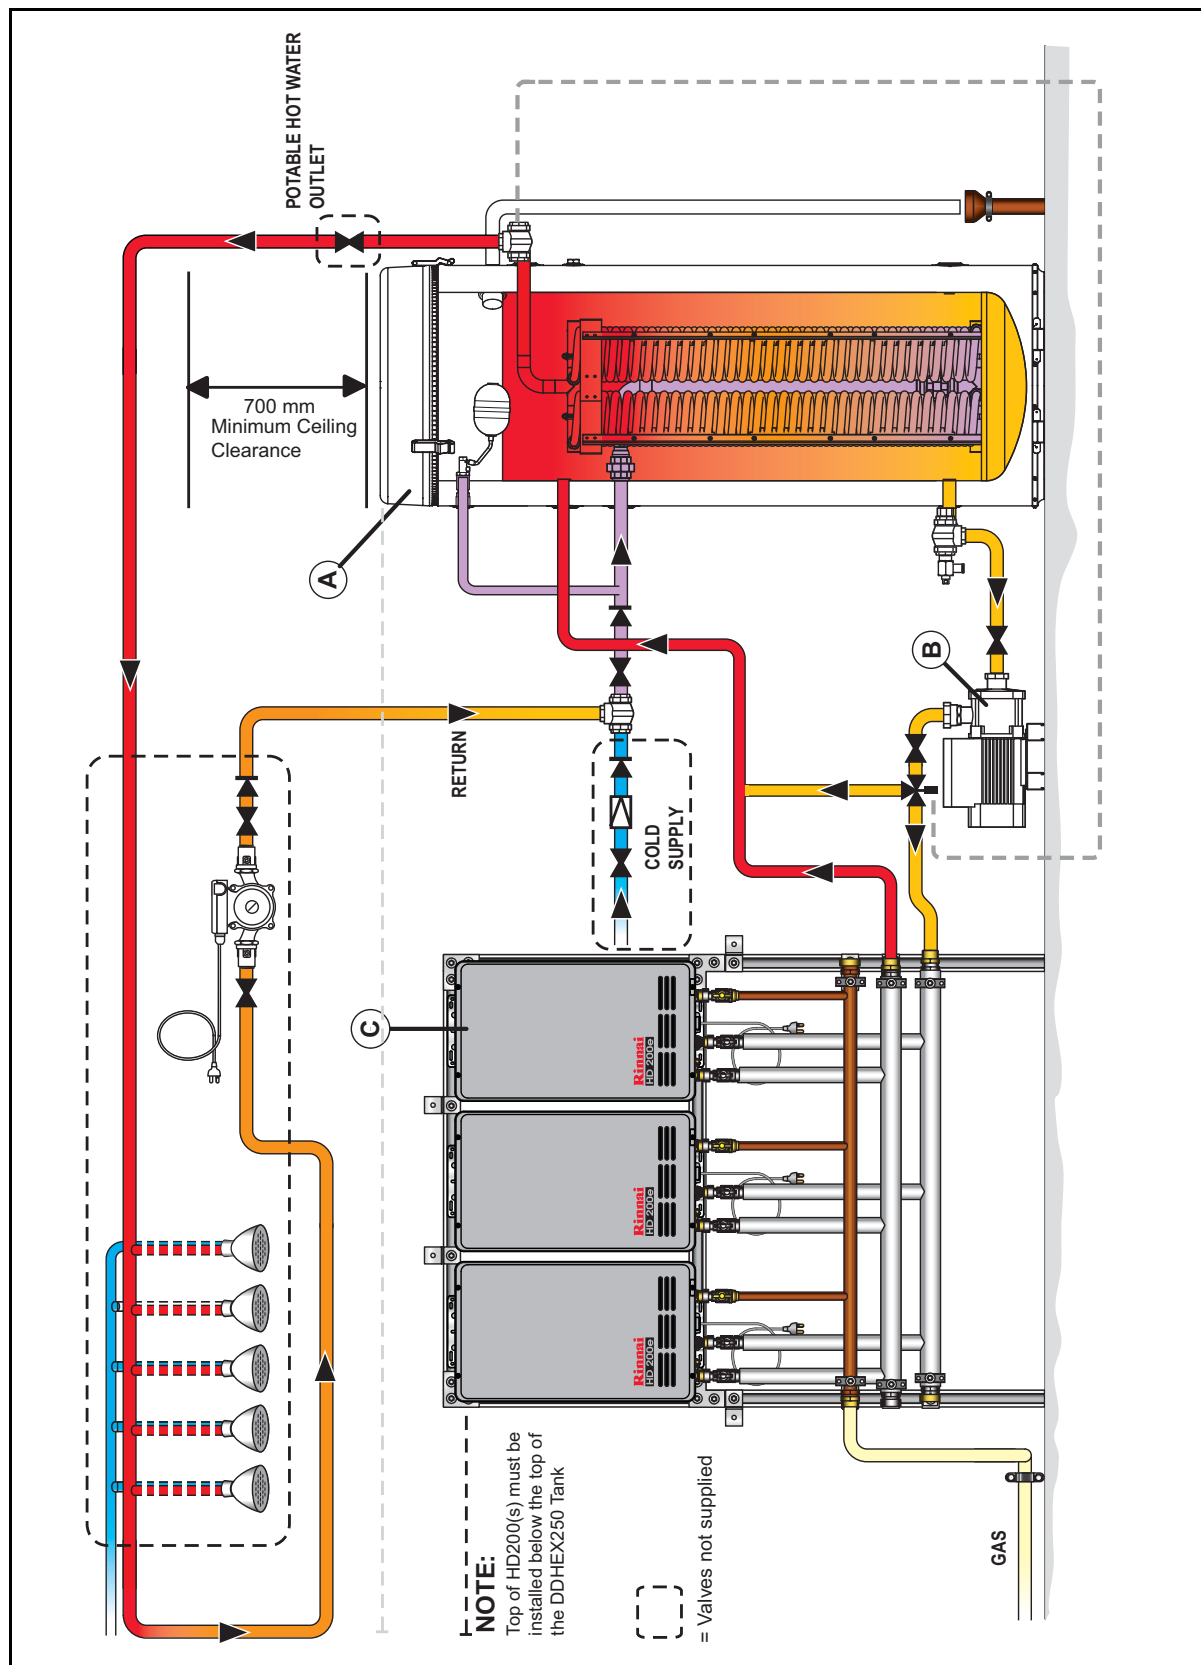

Figure 2 - DDHEX250 System Principle of Operation
2. Fitting Kit - Kit includes Primary Circulating Pump and connections. (Refer Ⓑ in Figure 2).
3. Manifolded HD200 Gas Continuous flow water heaters (1, 2 or 3), Internal or External NG or Propane. (Refer Ⓒ in Figure 2).
- The top of the water heater(s) must be located below the top of the DDHEX250 vented tanks and the primary heating circuit pipe-work **MUST BE** below 1500 mm from the base of the DDHEX250 tank (Refer Figure 2 Note). For external installations, the water heater should be mounted on a concrete base at least 50 mm thick. Where property damage can occur as a result of water leakage, the water heater must be installed with a safe tray (overflow tray) and drain in accordance with AS/NZS 3500.4. Ensure the water heater does not stand on wet surfaces.